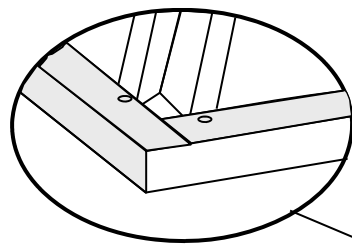

fig.4
- Ensure that the top and bottom ends of the braces are under the door flashings as shown in **fig.4**. and opposite ends of the braces overlap in the middle.